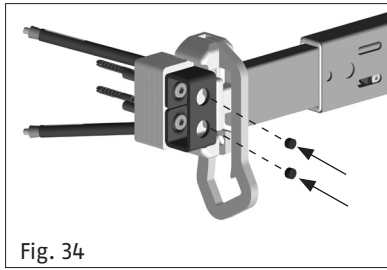

Fig. 34
4. For mounting the lock casing, see "Mounting the casing of the lock with mounting plate". Then knock the safety plugs into the hexagon socket of the screws. (Fig. 34).